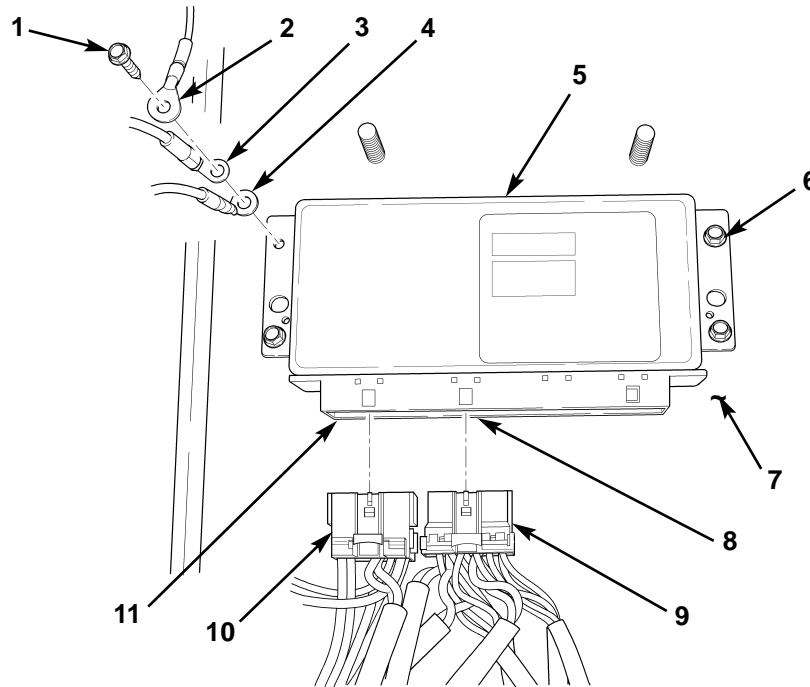

Figure 1. Removing ABS ECU.
1. Disconnect ABS ECU harness connectors (figure 1, items 9 and 10) from ABS ECU receptacles (figure 1, items 8 and 11).
2. Remove screw (figure 1, item 1) and three black ground wires (figure 1, items 2, 3, and 4) from ABS ECU (figure 1, item 5) and firewall (figure 1, item 7).
3. Remove remaining three screws (figure 1, item 6) and ABS ECU (figure 1, item 5) from firewall (figure 1, item 7).